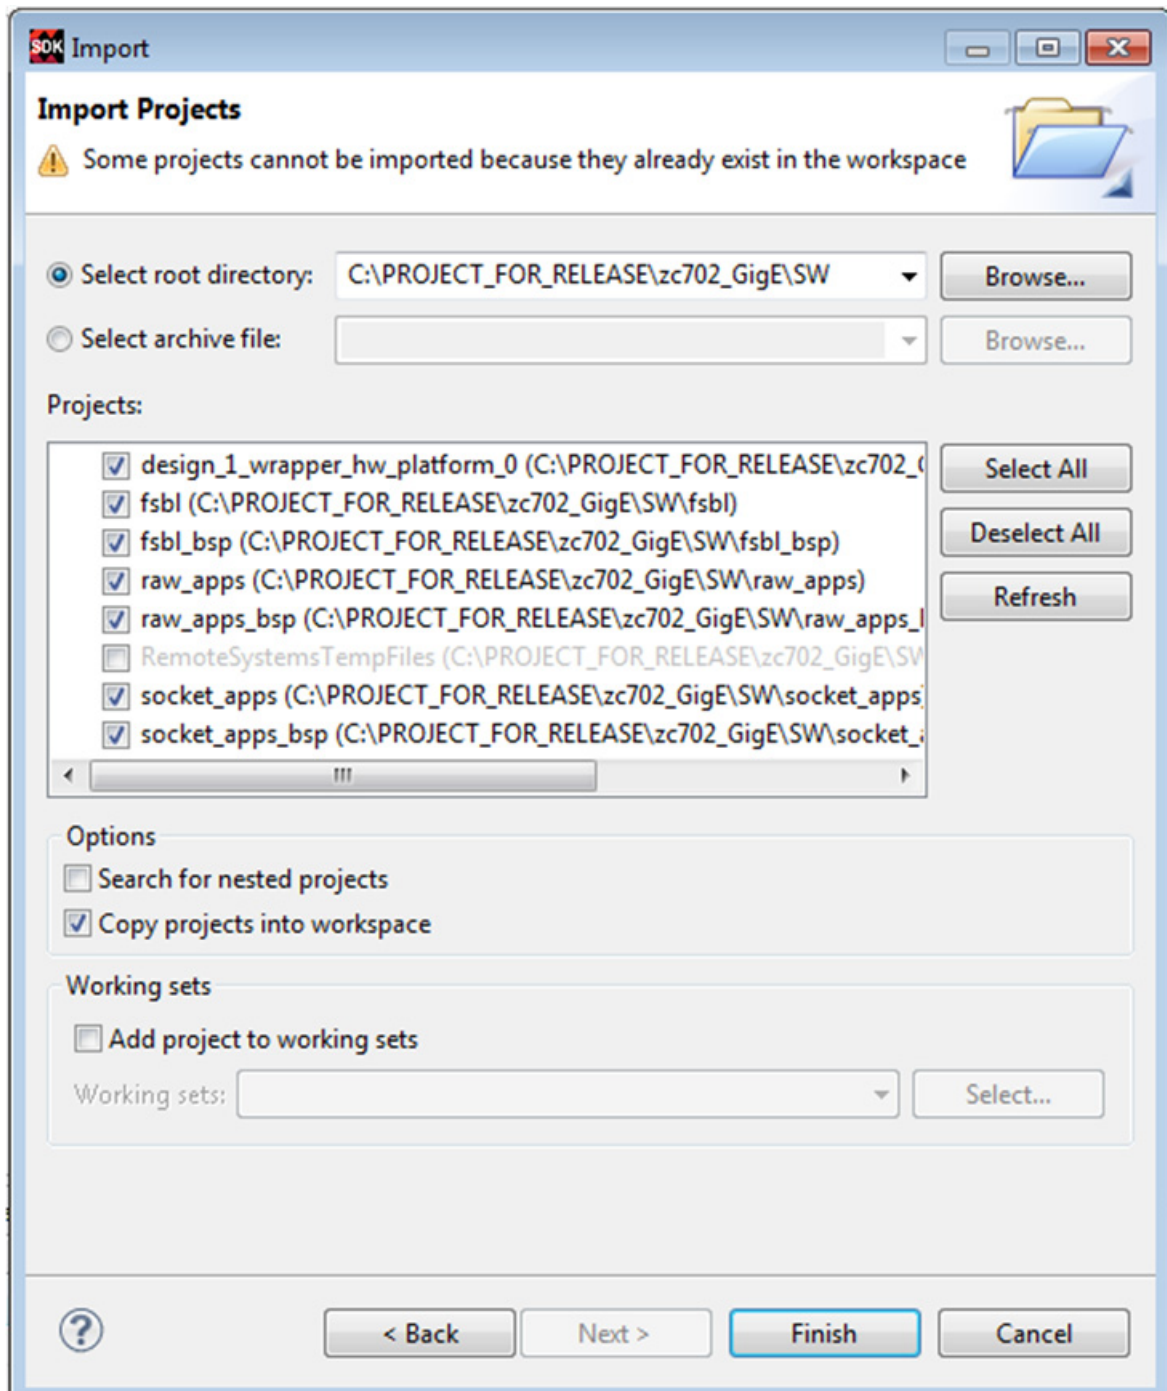

Figure 2: Select Folder to Import Projects
4. The import wizard displays a list of projects that are available to import. This list should include: fsbl (applicable for Zynq-7000 AP SoC devices only and for other systems it does not show up) hw_platform_0, raw_apps, raw_bsp, sock_apps, and sock_bsp. Select all these projects to be imported. Select the option **Copy projects into workspace**, if you want local copies of these projects in the workspace. Finally select **Finish** (see Figure 2).